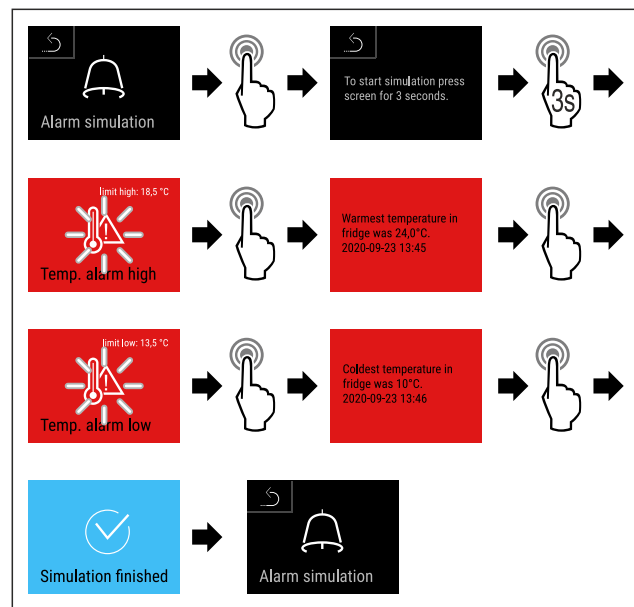

Fig. 155
- ▶ Complete steps (see Fig. 155).